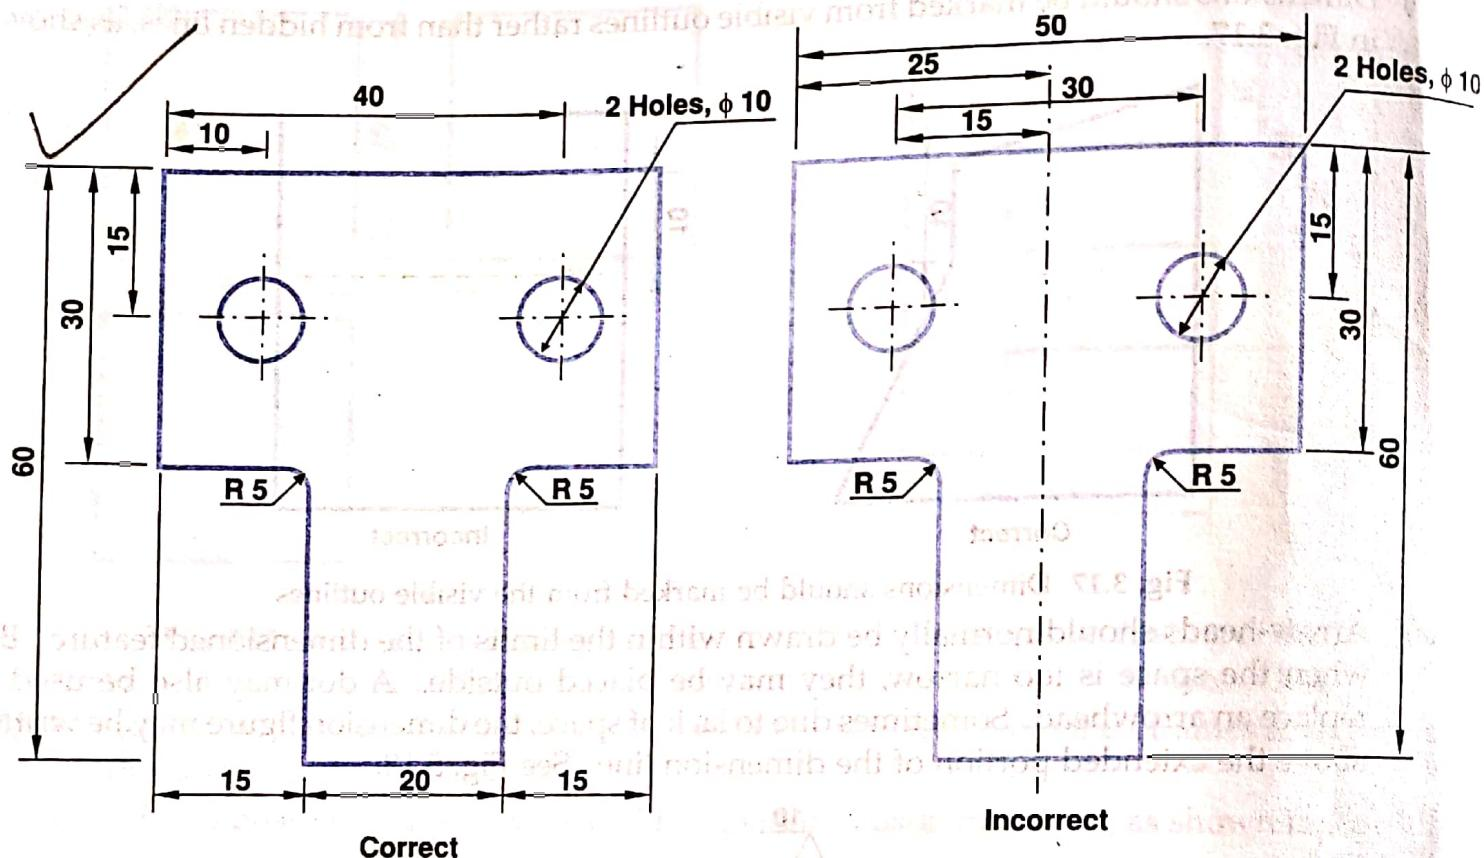

Fig. 3.20 Dimensioning to the centreline of an object should be avoided
- (ix) Dimensioning to a centreline should be avoided except when the centreline passes through the centre of a hole or a cylindrical part. See Fig. 3.20.